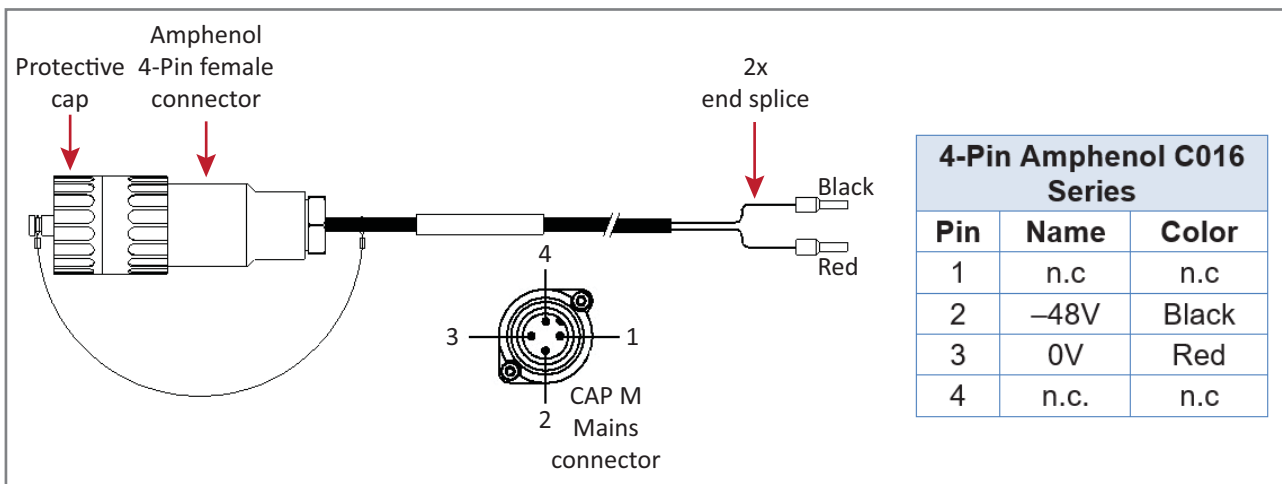

Figure 10. CAP M DC Power Cable
The standard CAP M DC power cable is a 3.2 m (10.5 ft) 13 AWG cable with a 4-pin Amphenol C016 series plug on one end to connect to the CAP M Mains connector. The other end of the cable is unterminated with 2 end splices to connect to the -48 Vdc power source. The standard DC power cable is shown in Figure 10.
- Figure 10 on page 50 for the DC power cable.